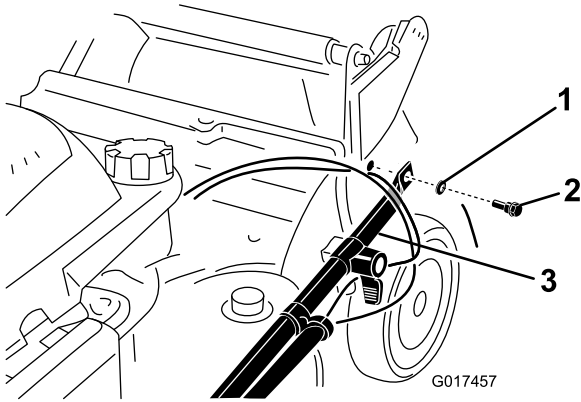

Figure 3
- Attach the handle ends to the machine housing with 2 washers and 2 handle bolts (Figure 3), **but do not tighten the handle bolts.**
**Important:** Route the cables to the *outside* of the handle (Figure 3).